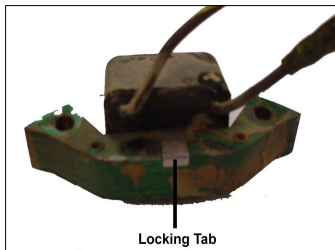

Fig. 3
11. Bend the locking tab up on the backside of the coil and remove the old coil from the frame. (Fig. 3)